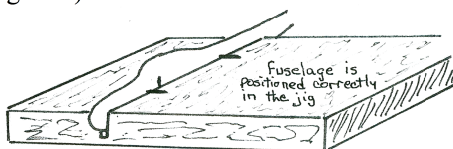

Figure 2
2. Insert the fuselage into the slot on the jig, making sure that when it rests on the wire pins it is perpendicular to the surface and flush against the slot on the side the wing will be attached. The line for the bottom of the wing should be at and parallel to the surface of the jig. (Figure 2)